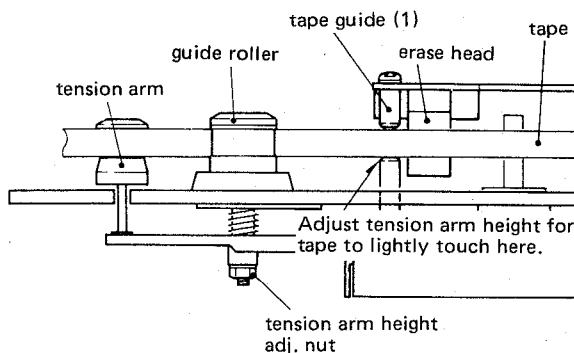

Fig. 2-19 Tension arm height adjustment
1. Playing a TEAC YTT-8013 test tape (thickness = $35\mu\text{m}$), adjust the height of the left tension arm so that the lower edge of the tape is just touching the lower edge of the tape guide (1). See Fig. 2-19. Also refer to "2-10 TENSION ARM HEIGHT ADJUSTMENT".
2. Adjust the height of the tape guide (2) so that the upper edge of the tape is in contact with the upper edge of the tape guide.
4. Adjust height of tape guides (3) and (4) in the same way as steps 1 ~ 3. For tape guide (4), adjust right tension arm height.
6. Apply locking paint to the height adjust nut of tape guides (2) and (3).